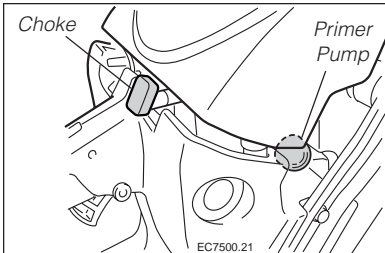

Figure 9
2. Depress the primer pump a few times repeatedly until the primer pump is almost filled with fuel. See Figure 9.
4. Pull the choke all the way out (choke closed). The throttle will automatically be set to fast idle. See Figure 9.